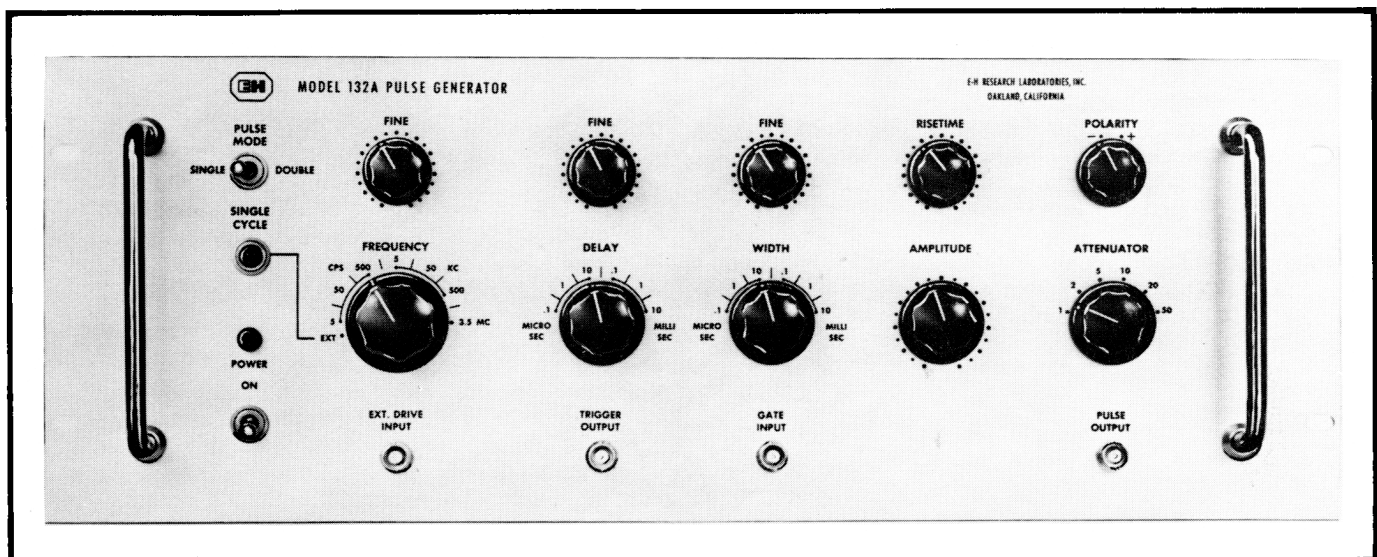

Figure 2-1 Front Panel Controls and Connectors
a. **General.** Refer to Figure 2-1. All of the controls for operating the Model 132A are located on the front panel. The line fuse and ac input connector are located on the rear panel. Four BNC connectors on the front panel serve as terminals for external drive and gate inputs and for trigger and pulse outputs.